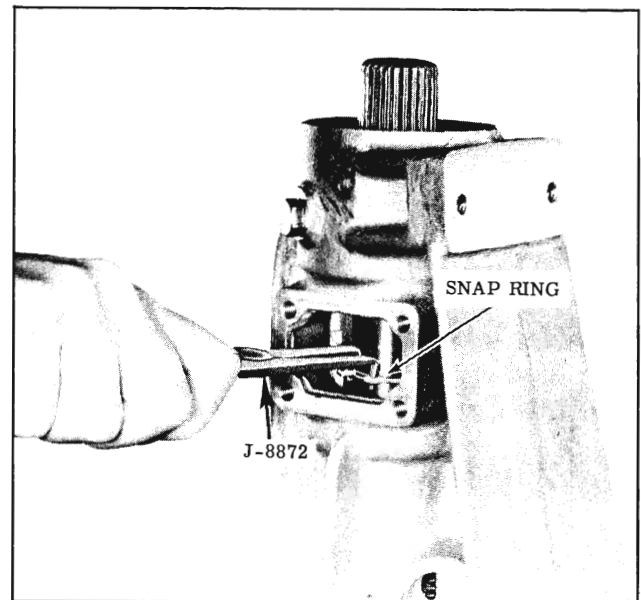

Fig. 3-29 Unseating Snap Ring
4. Reaching through access hole in rear bearing retainer, cut and remove "O" ring from output shaft, unseat the rear output shaft snap ring using Tool J-8872 and move snap ring upward over output shaft "O" ring groove. (Fig. 3-29)